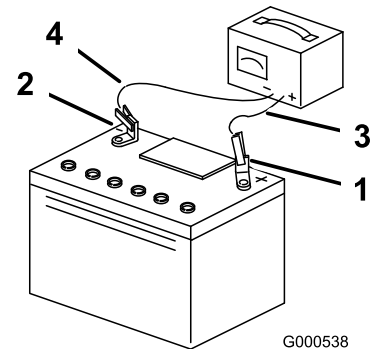

Figure 35
5. When the battery is fully charged, unplug the charger from the electrical outlet, and disconnect the charger leads from the battery posts (Figure 35).